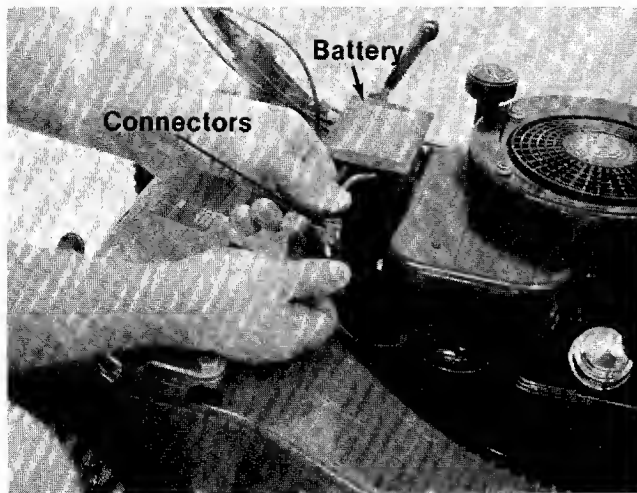

FIGURE 14.
23. Place the charged battery in position on the battery bracket as shown in figure 14.
24. Plug the connector on the battery into the connector on the wire harness on the mower. See figure 14.